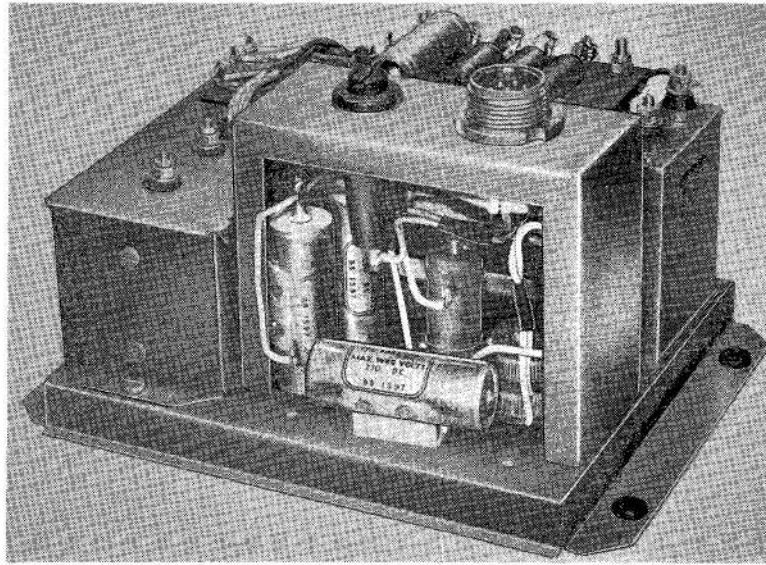

Fig. 2. Interior view, cover removed
3. All components are mounted on a chassis formed by the base of the unit, the vibrating component being enclosed in its own dust-proof metal box secured to the base by two 4 B.A. bolts and stiff-nuts (*fig. 2*).